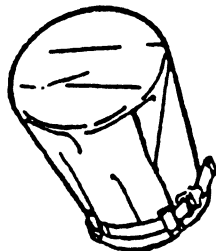

Fig 1-6. Muzzle cover.
a. Muzzle cover (fig 1-6); the muzzle cover is made of rubber and is used to protect the blast attenuator and bore from rain, dirt, and moisture whenever the mortar is not in use.